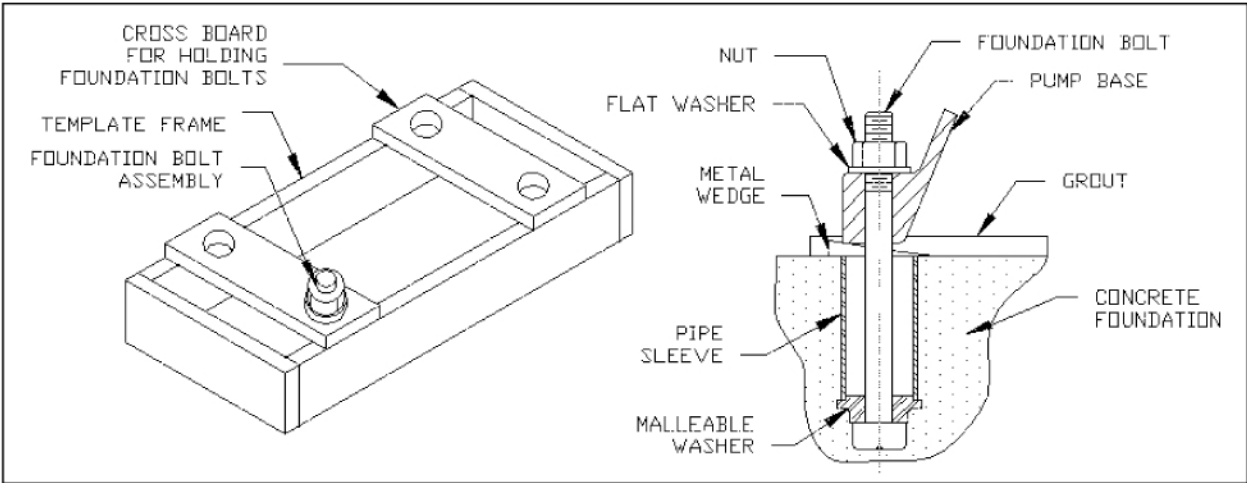

Figure 1 FOUNDATION BOLT LOCATION AND ANCHORAGE
3. Before pouring the foundation, locate the foundation bolts by the use of a template frame and provide anchorage as shown in Figure 1. See the outline drawings furnished with each pump for the exact location of the foundation bolts. When pouring, allow for